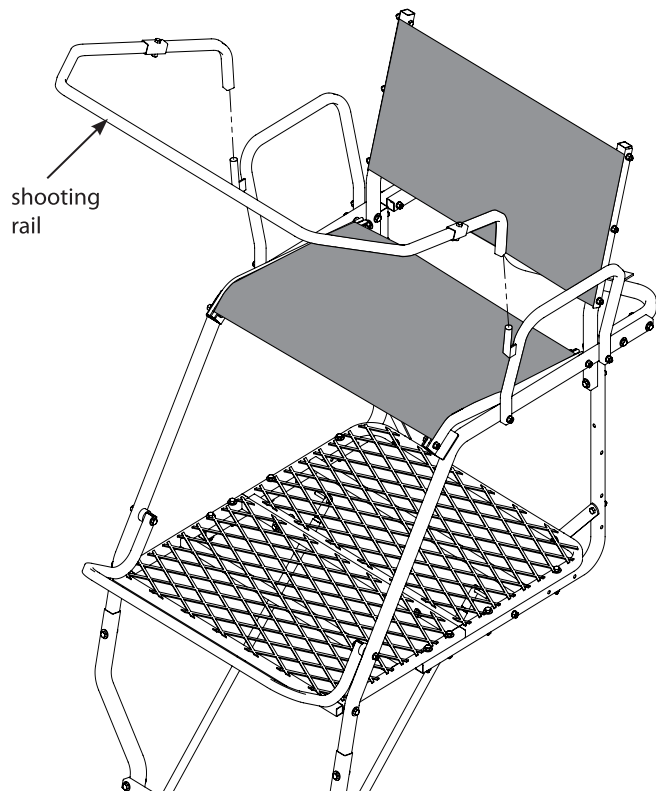

Figure 13
18. a. Attach the removable shooting rail by setting rail down over studs provided on armrests. **SEE FIGURE 13. Lubrication is recommended to prevent binding and noise.**
b. Attach the (2) provided 9" and (1) provided 47" camo foam pads to the armrests and shooting rail by wrapping around tubing and attaching Velcro together.